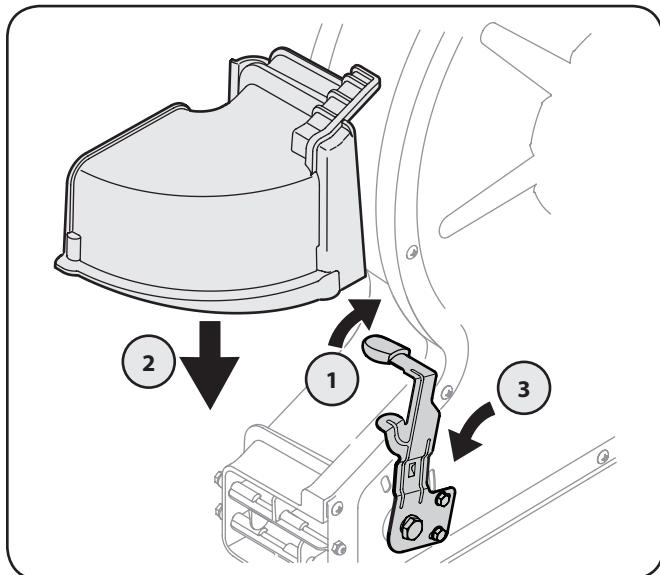

Figure 3-3
1. Pivot the blower direction lever all the way to the right, into the highest position. See Fig. 3-3.
3. Pivot the direction lever to the middle position to lock the chute attachment in place. See Fig. 3-3.